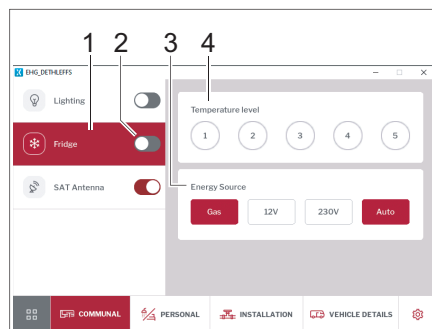

Fig. 282 Refrigerator
- Use the switch to turn the refrigerator (Fig. 282,2) on or off.
- Click on the *Refrigerator* (Fig. 282,1) button.
The cooling level (Fig. 282,4) and energy source (Fig. 282,3) can be configured in the control panel.